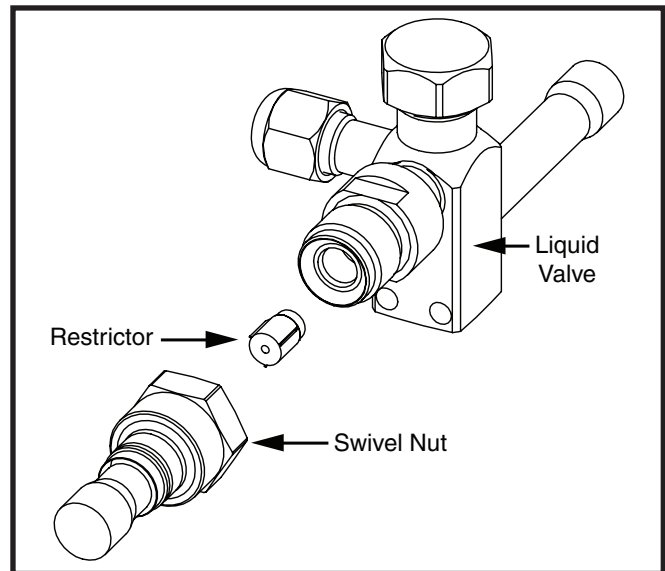

Figure 2. Liquid Valve, Restrictor, & Swivel Nut Adapter
If the outdoor unit has the liquid valve shown in Figure 2, then the restrictor is located inside the swivel nut connection of the liquid valve and not inside the outdoor unit's distributor. Perform steps 1 - 5 if the outdoor restrictor needs to be changed.
4. Insert the new orifice into the valve body, with the rounded end facing into the valve. See Figure 2 \(page 4\).